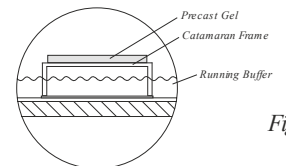

Fig. 2b
4. *Pre-heat the gel for 20-25 min *(Fig. 2b)*
4. Cut the alu bag on one side. Take the plastic bag with the gel out, and cut the plastic bag on 3 sides. Peel the plastic off. Grip the gel with forceps at the plastic backing overhang (Fig. 2). Place the gel ON THE CATAMARAN FRAME IN the ORIGINS and close the lid. (Fig. 2b) Gels should not be placed in the buffer to avoid equilibration between special buffer in the gel and the running buffer.